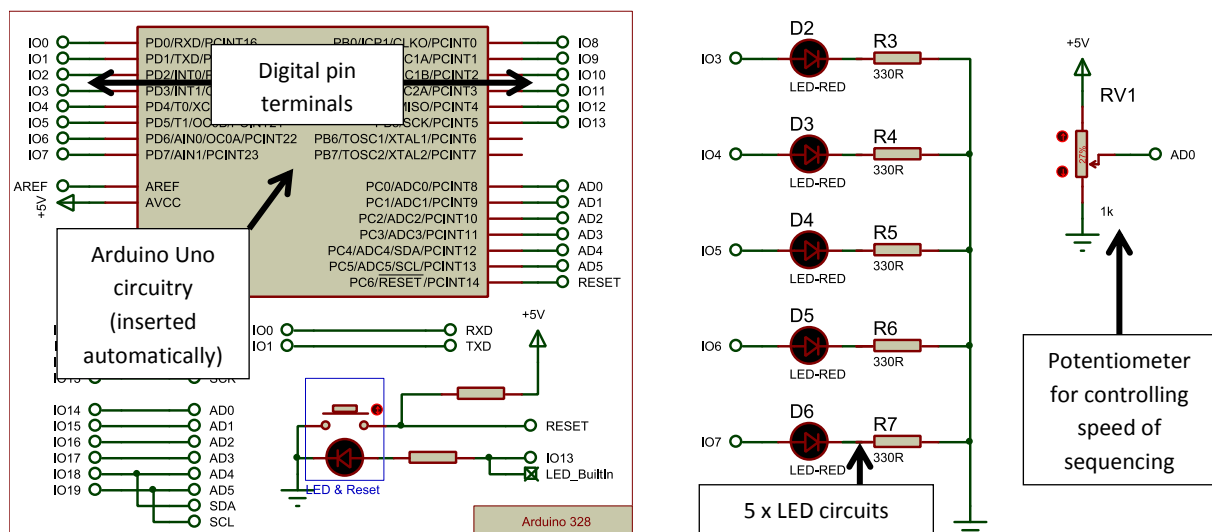

Figure 7-2: Sequencing LEDs circuitry
4. Place components and terminals as indicated by Figure 7-2; wiring-up, and setting any custom values needed. This will involve doing the following:
- f. Wire up, as depicted in Figure 7-2.